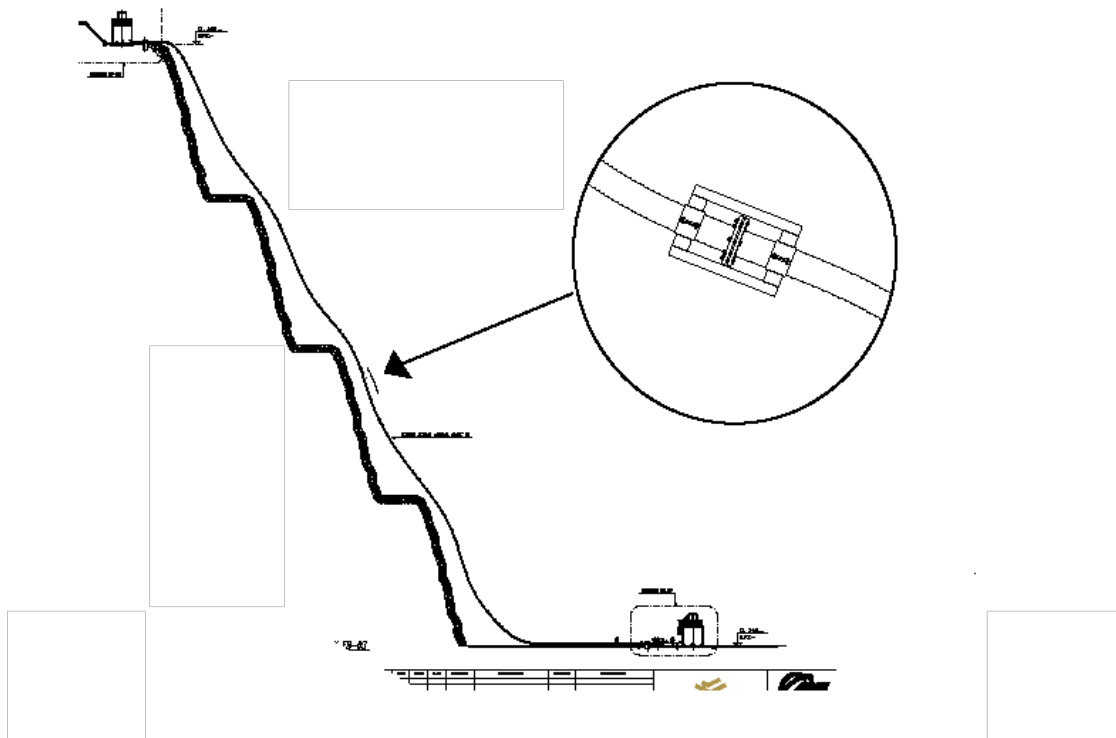

Figure 14. Using a Fixpoint Bridge in a Dewatering line
- 7.6.16.1. The top and bottom ends of the PEX pipeline should be anchored by a Fixpoint – see Figure 14